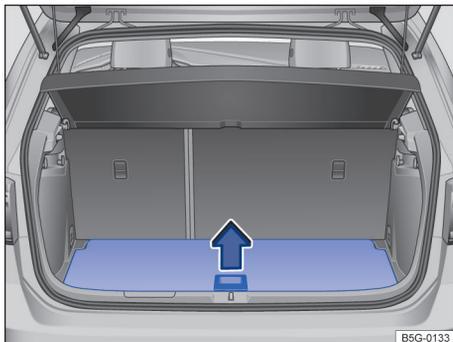
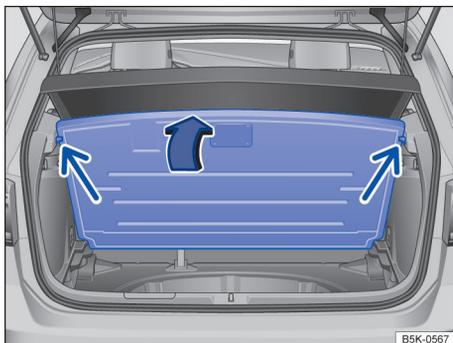

Fig. 142 In the luggage compartment: Opening the variable luggage compartment floor.
Fig. 143 In the luggage compartment: Variable luggage compartment floor folded up.
- *To open:* Lift the recessed handle → fig. 142 and guide the floor upward until it is held in position by the stops on either side of the luggage compartment → fig. 143 (arrows).
- Grasp the recessed handle → fig. 142, lift the luggage compartment floor, and pull it rearward out
- Grasp the recessed handle → fig. 142, lift the luggage compartment floor, and pull it rearward out of the guides on the sides of the luggage compartment.